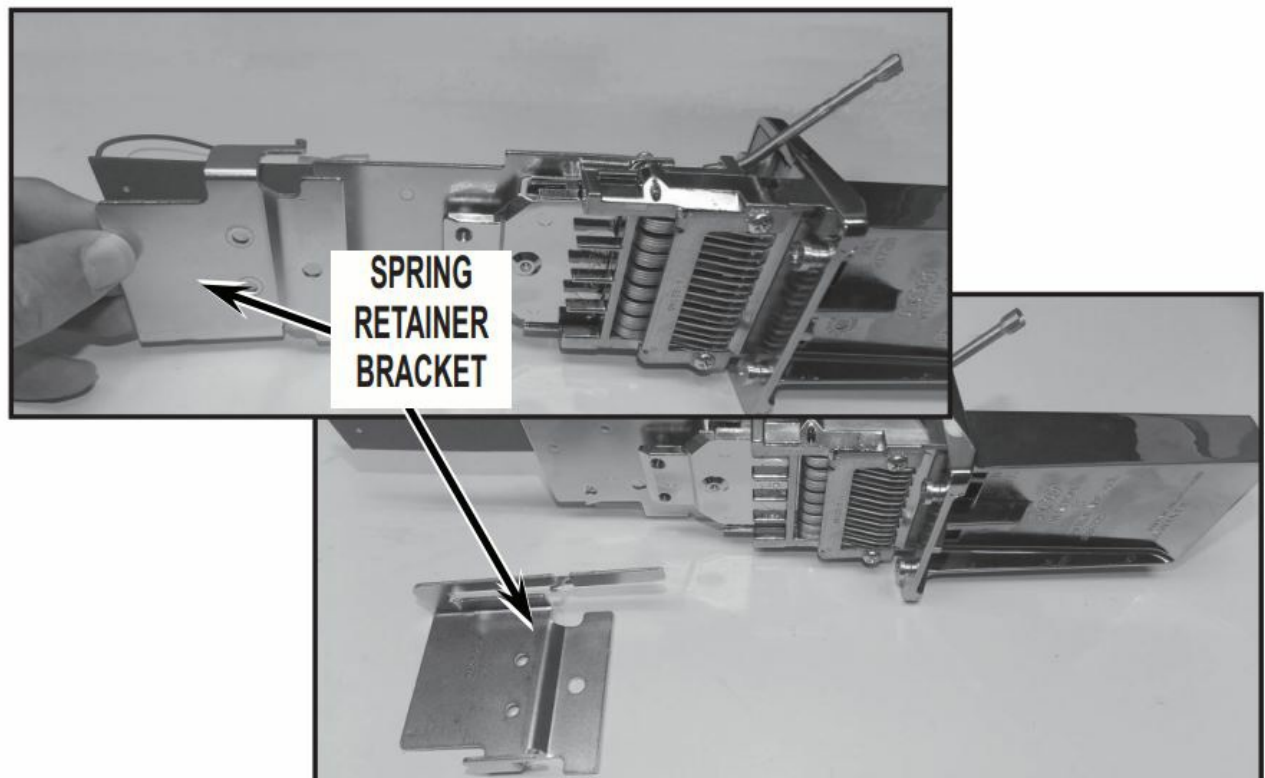

FIGURE 4
3. Remove the spring retainer bracket. See Figure 4.